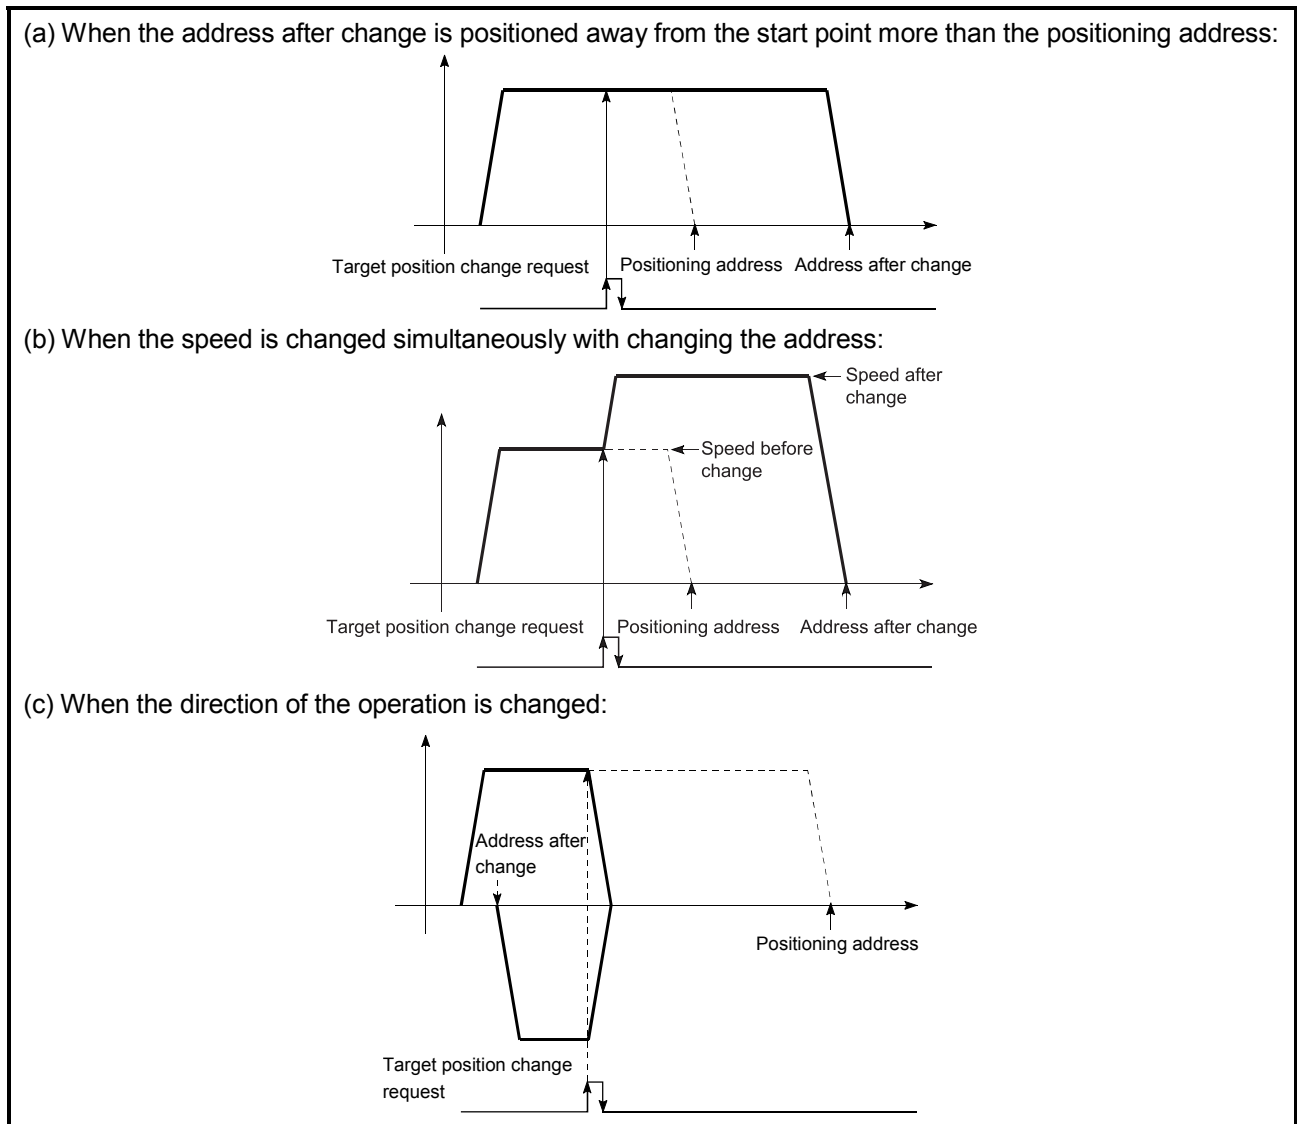

Fig. 12.35 Target position change operation
- (1) If the positioning movement direction from the stop position to a new target position is reversed, stop the operation once and then position to the new target position. (Refer to Fig. 12.35 (c).)
- (2) If a command speed exceeding the speed limit value is set to change the command speed, the warning "Speed limit value over" (warning code: 501) will occur, and the new command speed will be the speed limit value. Also, if the command speed change disables the remaining distance to the target value from being assured, the warning "Insufficient remaining distance" (warning code: 509) will occur.
- (3) In the following cases, the target position change request is ignored, and the warning "Target position change not possible" (warning code: 518) will occur.
- (4) When a command speed is changed, the current speed is also changed. When the next positioning speed uses the current speed in the continuous positioning, the next positioning operation is carried out at the new speed value. When the speed is set with the next positioning data, that speed becomes the current speed and the operation is carried out at the current speed.
- (5) When a target position change request is given during automatic deceleration in position control, positioning control to a new position is exercised after the axis has stopped once if the moving direction is reversed. If the moving direction is not reversed, the axis is accelerated to the command speed again and positioned to the new position.
- (6) If the constant speed status is regained or the output is reversed by a target position change made while " Md.48 Deceleration start flag" is ON, the deceleration start flag remains ON. (For details, refer to Section 12.7.8.)